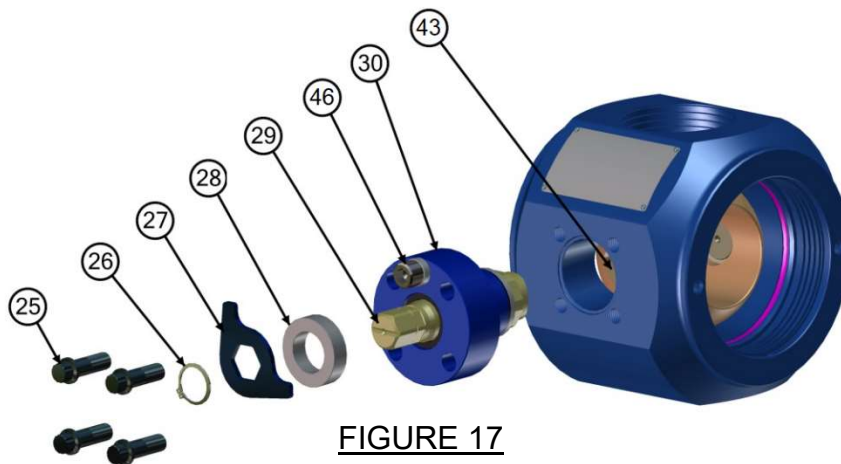

FIGURE 17
- 16) Align the stem (29) (**FIGURE 17**) so the direction of media flow through the ball is parallel to the arrow/groove on the end of the stem.
- 17) Install the stuffing box assembly (30) into the stuffing box bore, ensuring the indicator groove at the end of the stem is aligned with the inside diameter of the ball (43).
- 19) Turn the stuffing box to position the stem stop bolt (46) so it is positioned 90° to the flow of the valve and toward the entry cap side of the valve.
- 20) For 2" and 3" valves only, install the spacer ring (28) over the stem and against the stuffing box.
- 21) Orient the stem stop (27) and slide it over the stem. The protruded portion should rest against the stem stop bolt.